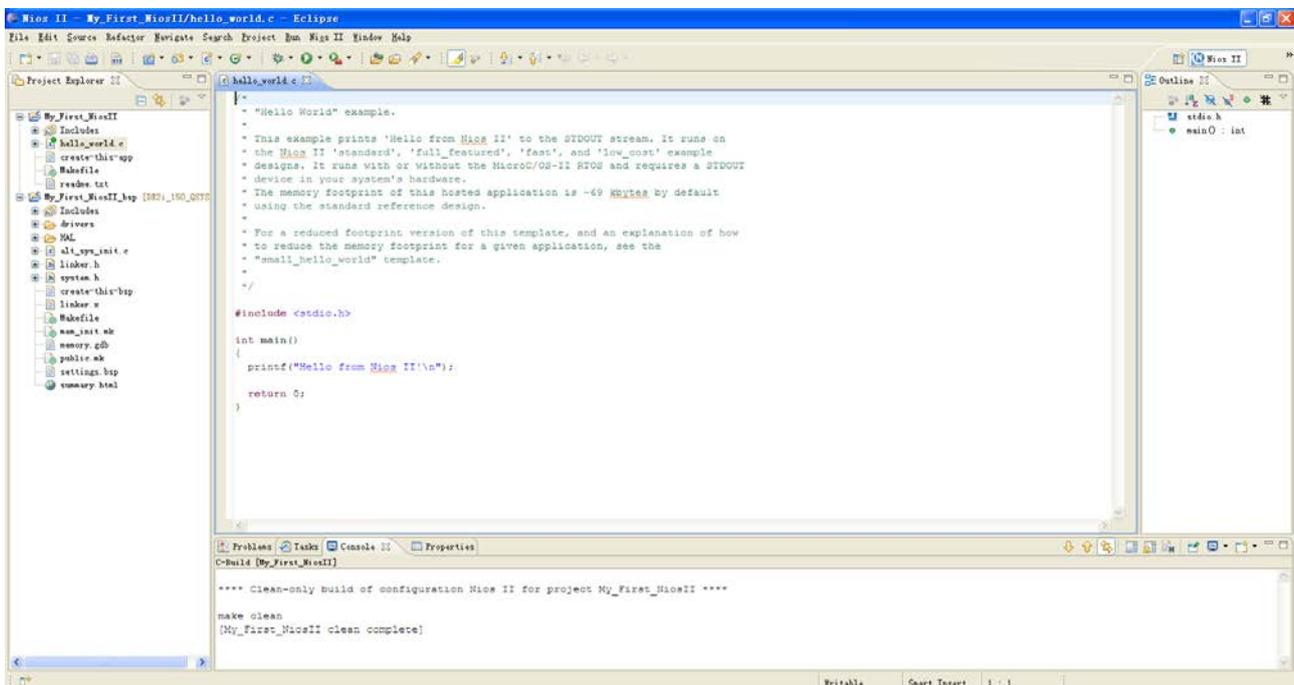

Figure 2-4 Eclipse Project Perspective for My_First_NiosII
5. Click **Finish**. The NIOS II SBT for Eclipse creates the **My_First_NiosII** project and returns to the Nios II C/C++ project perspective. See Figure 2-4.